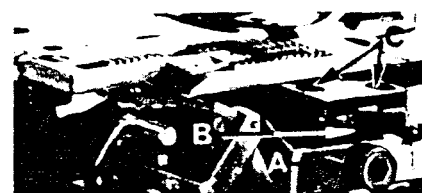
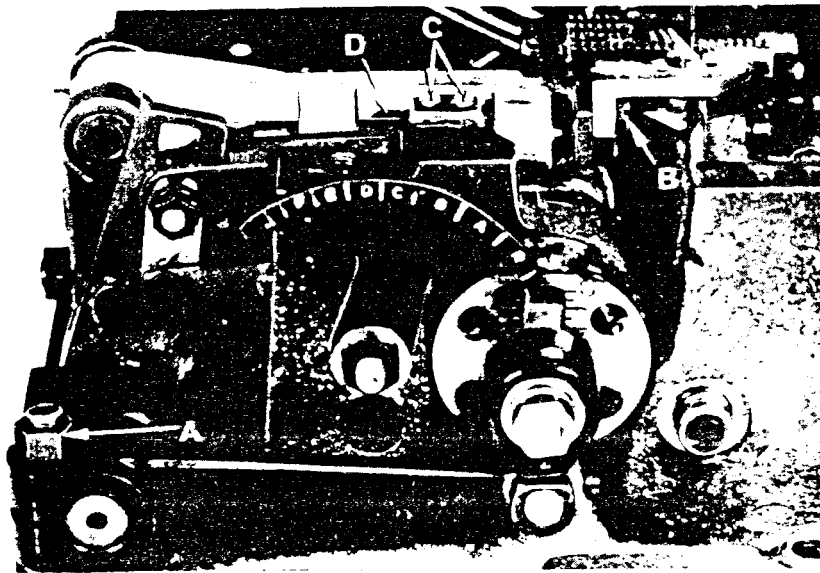

Fig. 8
Fig. 9
To raise or lower the main feed dog, loosen Allen screw (A, Fig. 8) and adjust the feed dog holder (B) to set the feed dog at specified height. Retighten screw (A).
The main feed dog should have equal clearance on all sides of feed slots in the throat plate at maximum feed travel. To adjust the main feed dog across-the-line-of-feed, loosen screws (C, Fig. 8) and position feed dog as required. Retighten screws (C). To adjust main feed dog in-line-of-feed, loosen nut (A, Fig. 9) and move feed bar as required. Retighten nut.
To raise or lower the differential feed dog, loosen screw (B, Fig. 9) and set the feed dog at the required height. Retighten screw.
Loosen set screws (C, Fig. 9) and move the differential feed bar (D) forward or backward as required. The loosening of set screws (C) will also allow the differential feed bar (D) to be rotated, so the differential feed dog can be aligned parallel with the top surface of the throat plate, across-the-line-of-feed. Tighten screws securely.